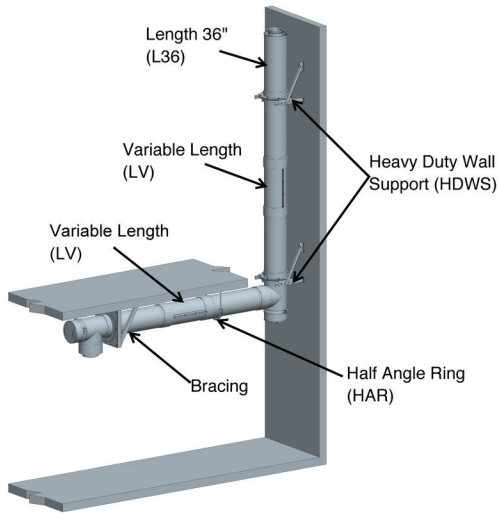

Figure 58: - Typical Installation locations for the Variable Lengths
To prevent the LV from sagging, it is recommended that the duct section adjacent to a LV is supported or guided. See Figure 58 for typical support locations for Variable Length. When necessary, properly guide the Variable Length (LV) by installing a Heavy Duty Wall Guide (WGHD) or any support immediately on the next (upstream) section.